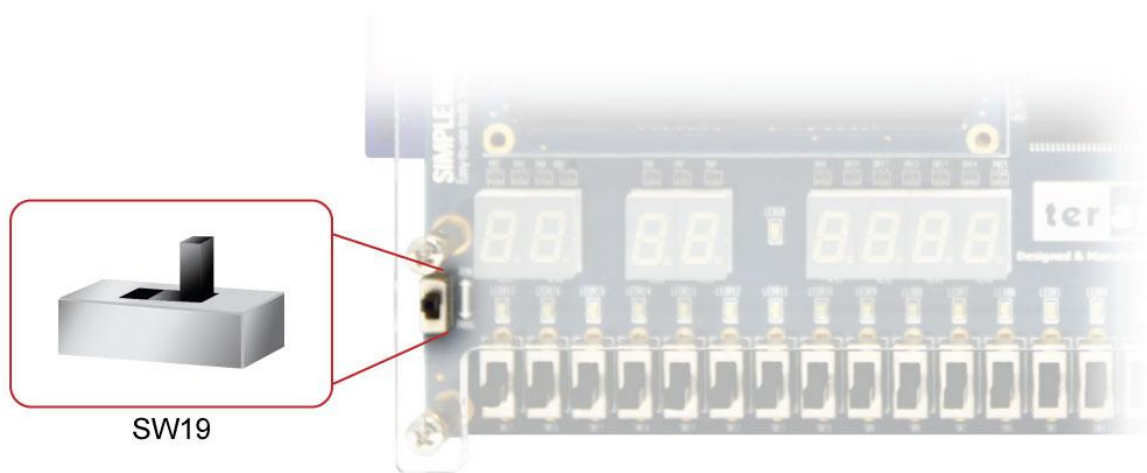

Figure 3-4 The RUN/PROG switch (SW19) is set to JTAG mode
- Configure the JTAG programming circuit by setting the RUN/PROG slide switch (SW19) to the RUN position (See **Figure 3-4**)